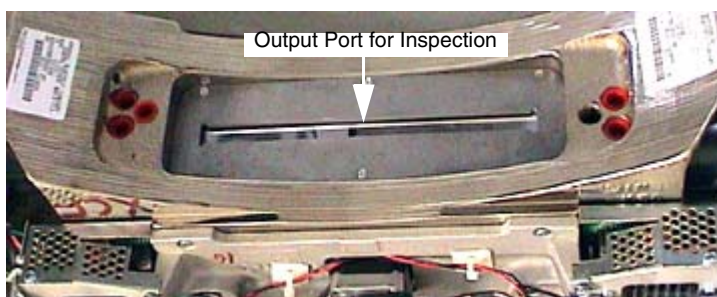

Figure 2-12 Collimator Output Port
- 3.) Using a flashlight, inspect the primary copper filter by looking down into the collimator output port. See Figure 2-12.